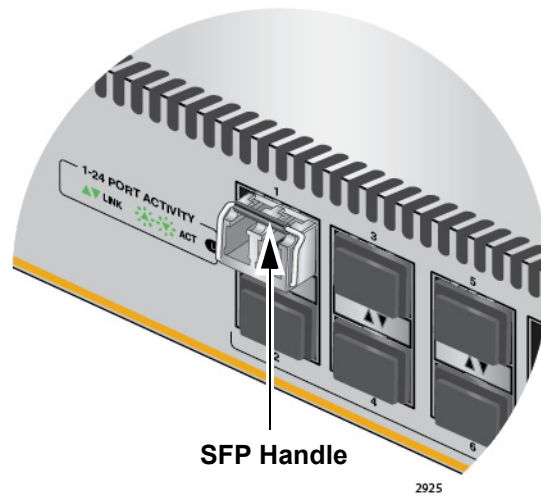

Figure 25. Positioning the SFP Handle in the Upright Position
6. Verify the position of the handle on the SFP transceiver. If the transceiver is in a top slot, the handle should be in the upright position, as shown in Figure 25 on page 73. If the transceiver is in a bottom slot, the handle should be in the down position.